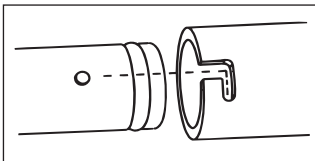

Figure 1
2. If catheter is removed from sheath or catheter insertion is delayed, introduce the entire length of the SLIC assembly through the hemostasis valve/sheath assembly. Twist to lock (refer to Figure 1).